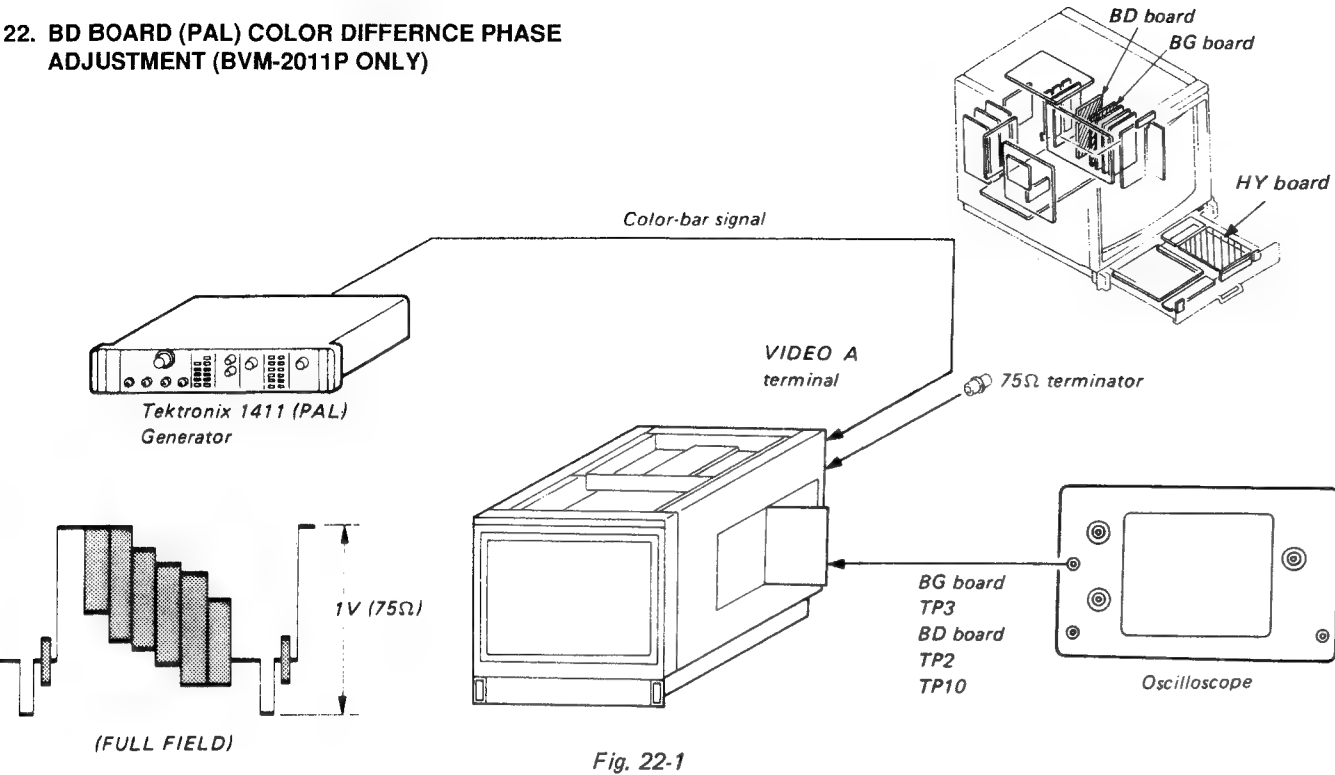

Fig. 22-1
1. Complete the connections as shown in Fig. 22-1.